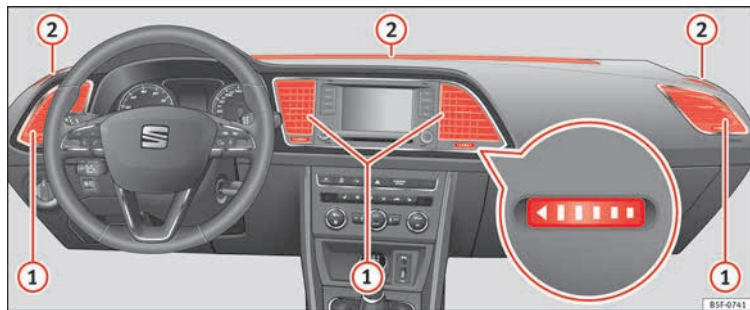

Fig. 184 On the dash panel: air vents
To ensure proper heating, cooling and ventilation in the vehicle interior, air vents **» Fig. 184 ①** should remain open.